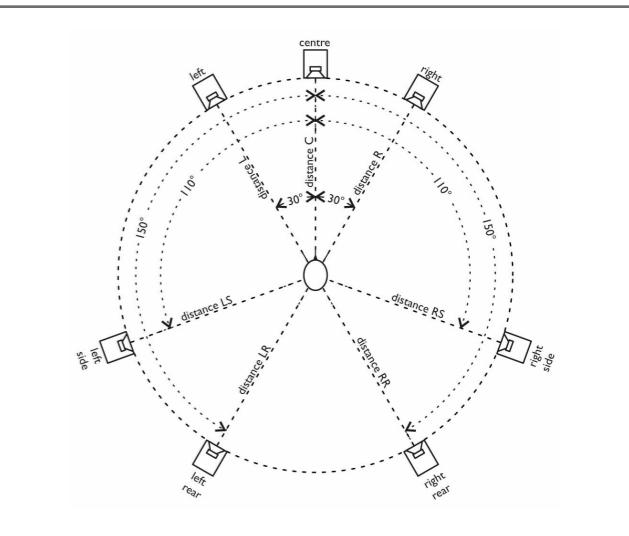

Fig. 3
5.1 or 7.1 Surround Positioning. All loudspeakers should be equidistant from the listening position – see **Fig. 3**: distance L=C=R=LS=LR=RR=RS. For 5.1 systems, position the surround speakers between 110° and 150° degrees (ITU spec. is 110°). If ideal positioning isn't possible, position loudspeakers as close as possible to ideal. Try to avoid placing subwoofers in corners, very close to walls, and on the midpoint between two parallel walls